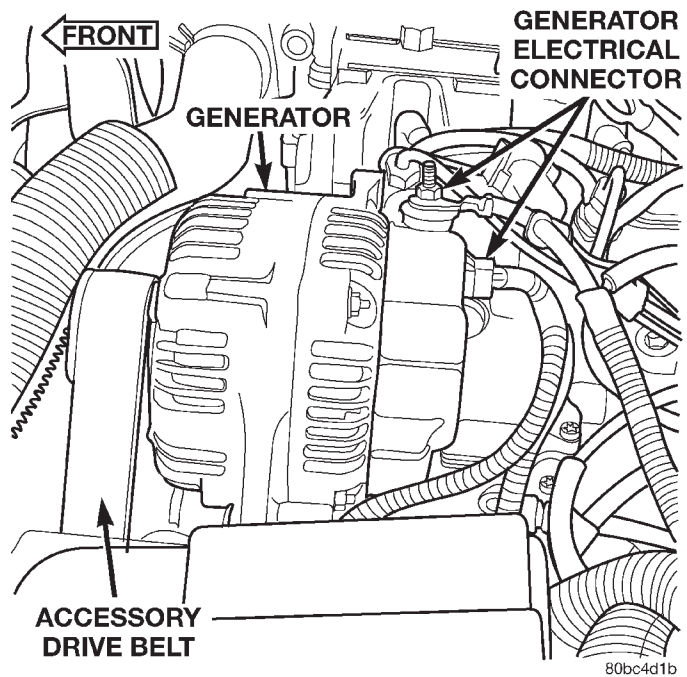

Fig. 5 Generator Electrical
(2) Connect the generator field wire connector on the rear of the generator (Fig. 5).
(3) Install the B+ generator output wire and torque to 8.5 N·m (75 in. lbs.) (Fig. 5). Install the terminal cap.